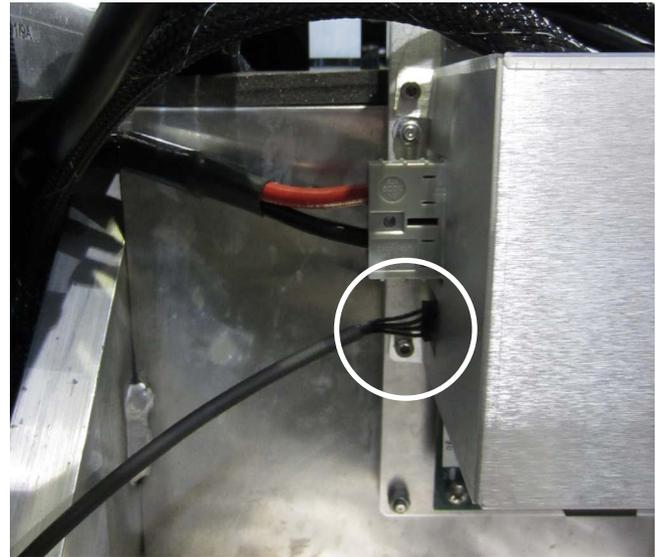

Figure 121: Rider Detect Harness
4. Disconnect the harness from the PI Board. See **Figure 121**.
4. Connect the wire harness to the left side of the PI Board. See **Figure 121**.